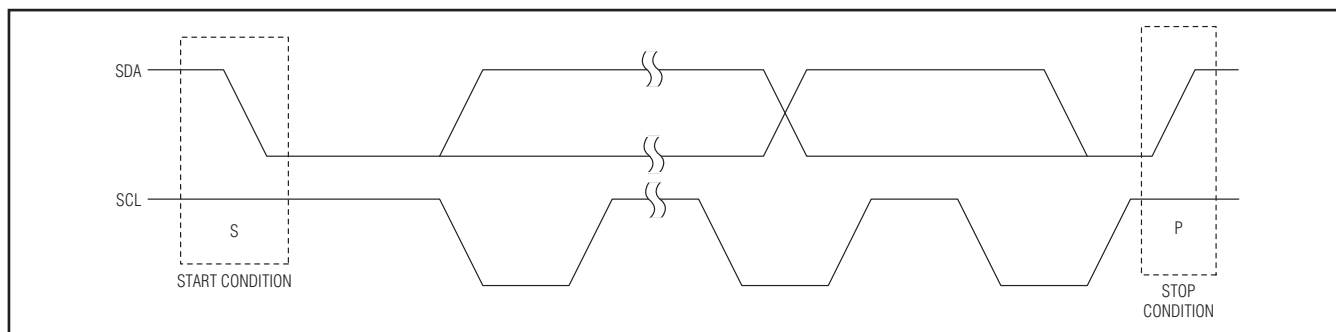
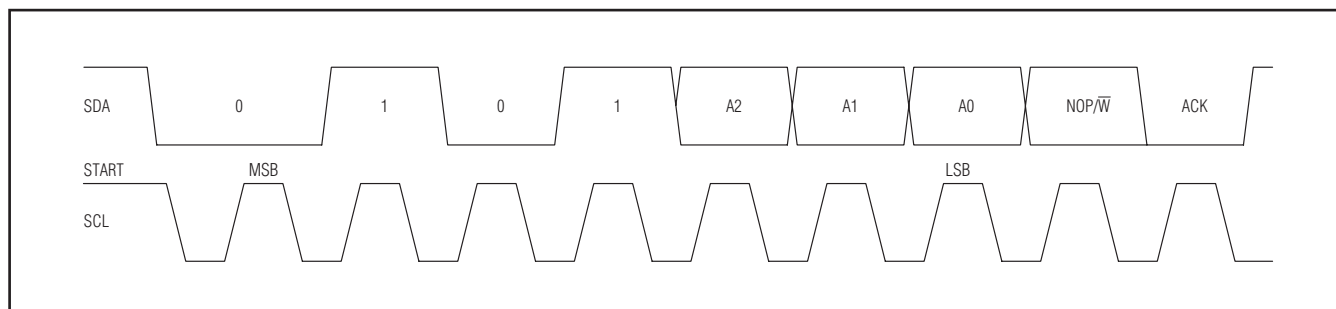

Figure 3. START and STOP Conditions
Figure 6. Slave Address
Each transmission consists of a START (S) condition (Figure 3) sent by a master, followed by the MAX5387 7-bit slave address plus the NOP/ $\overline{W}$  bit (Figure 6), 1 command byte and 1 data byte, and finally a STOP (P) condition (Figure 3).
The MAX5387 includes a 7-bit slave address (Figure 6). The 8th bit following the 7th bit of the slave address is the NOP/W bit. Set the NOP/W bit low for a write command and high for a no-operation command. The device does not support readback.